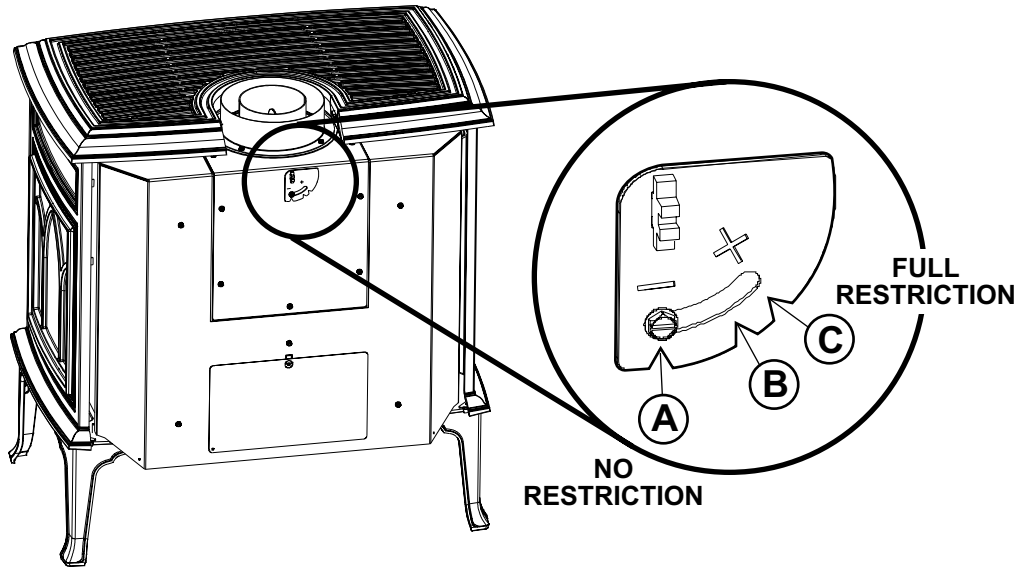
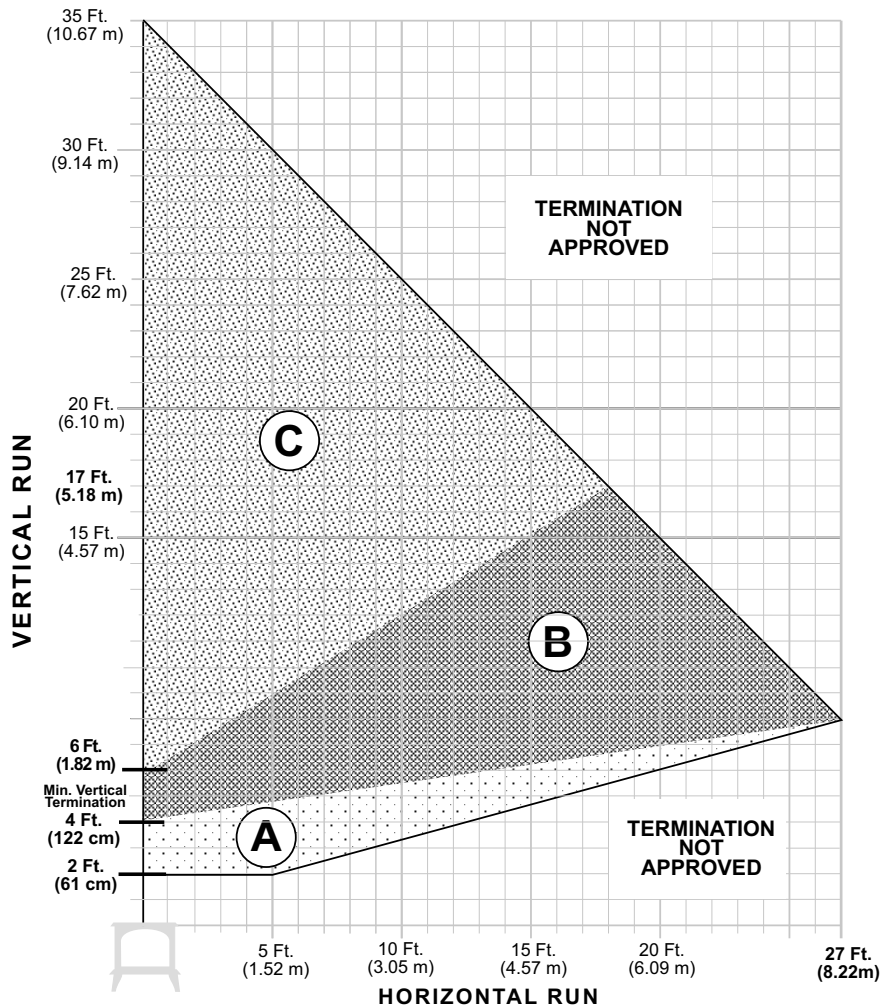

Figure 5.8. Use 1/4" socket driver to loosen the Exhaust Restrictor dial and adjust to the appropriate notch for your termination zone.
Figure 5.9. Vent Termination Zone Matrix - NG/LP
The Exhaust Restrictor is an adjustable plate located within the firebox exhaust outlet. It is adjusted by rotating the dial at the back of the stove within a range from the factory-set, fully open position (no restriction) to a fully restricted position. See fig. 5.8. The Minus and Plus signs on the dial relate to degrees of restriction, from zero to approximately 70%. The three lettered positions correlate to the termination zones (A,B,C) diagramed in figure 15. Use the diagram to determine the degree of restriction and shutter setting you should use.
3. Locate the restrictor adjustment dial on the top of the exhaust outlet. Use a 1/4" nut driver to loosen the lock nut and pivot the dial to the position appropriate to your termination zone. See figs. 5.8 and 5.9.
The circled letter designations in the vent matrix in figure 5.9 correspond to the Exhaust Restrictor dial settings on the stove. First, determine which vent termination zone is appropriate for your installation, then adjust the restrictor to the corresponding position as shown in figure 5.8.
- The termination should fall within the shaded areas of the grids depicted in the Vent Matrix, fig. 5.9, page 11.
- Any horizontal termination must fall within the shaded portion of the vent window matrix shown in fig. 5.9, pg. 11.